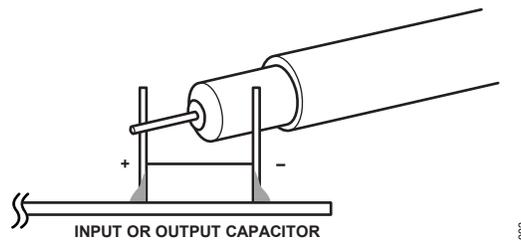

Figure 2. Scope Probe Placement for Measuring Input or Output Voltage Ripple
**NOTE:** When measuring the input or output voltage ripple, care must be taken to avoid a long ground lead on the oscilloscope probe. See Figure 2 for the proper scope technique.
**NOTE:** When measuring the output or input voltage ripple, do not use the long ground lead on the oscilloscope probe. See Figure 2 for the proper scope probe technique. Short, stiff leads need to be soldered to the (+) and (-) terminals of an output capacitor. The probe's ground ring needs to touch the (-) lead, and the probe tip needs to touch the (+) lead.